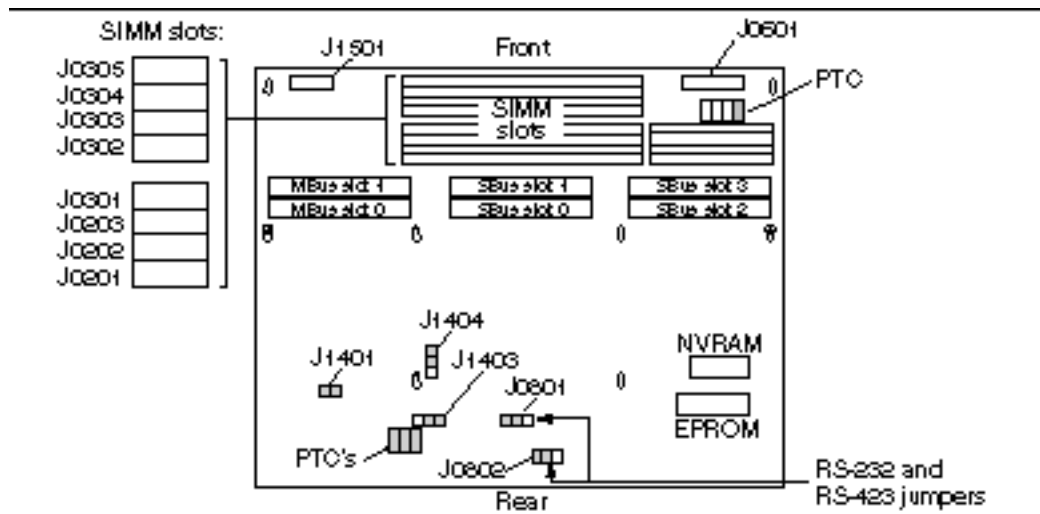

Figure 1-5 Main Logic Board
- Figure 1-5 presents the main logic board layout.
You can add various SBus cards to the four SBus slots on the main logic board. Figure 1-5 illustrates the SBus slots. See Chapter 10 for information on how to replace SBus cards. Following is a list of some of the Sun SBus cards available for the SPARCstation 10 system.